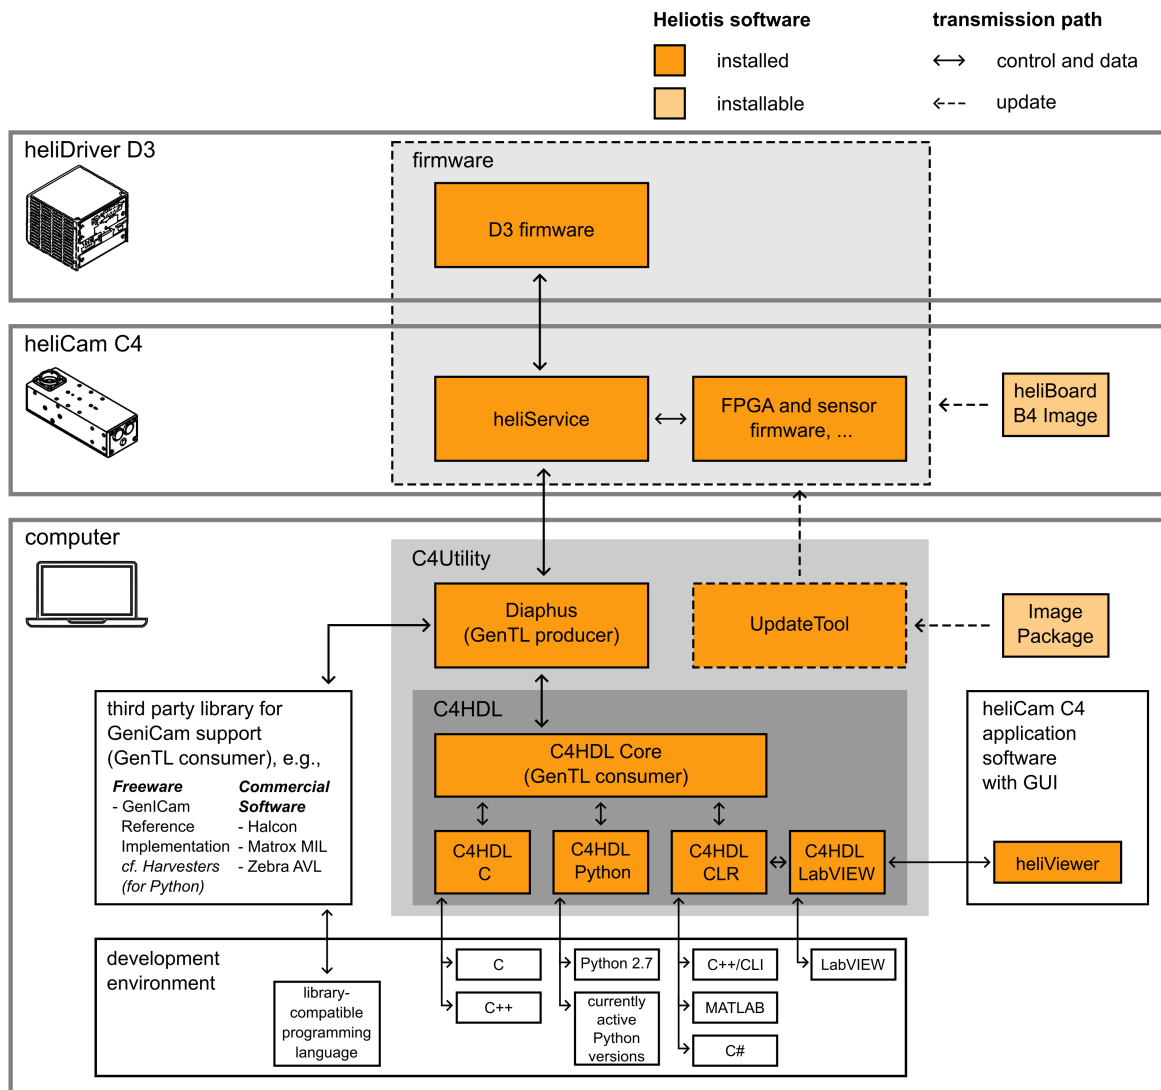

Fig. 2.7: Overview of Heliotis Software
A brief overview follows, outlining the contents and organization of the software provided by Heliotis and its interfaces with third party software (see Fig. 2.7) in more detail.
- The connection to the camera cannot be established either if the firmware version on the heliCam™ C4 does not match the Heliotis software version installed on the host computer. The status message tells you in this case that the software versions of the camera-side heliService and computer-side Diaphus do not match (cf. Fig. 2.7).